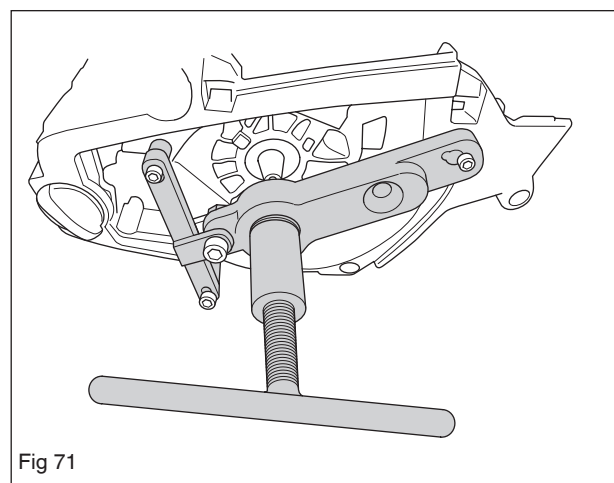

Fig 71
6. Fit tool 575 28 69-01 as outlined in figure 71. Remove the flywheel side's crankcase half.